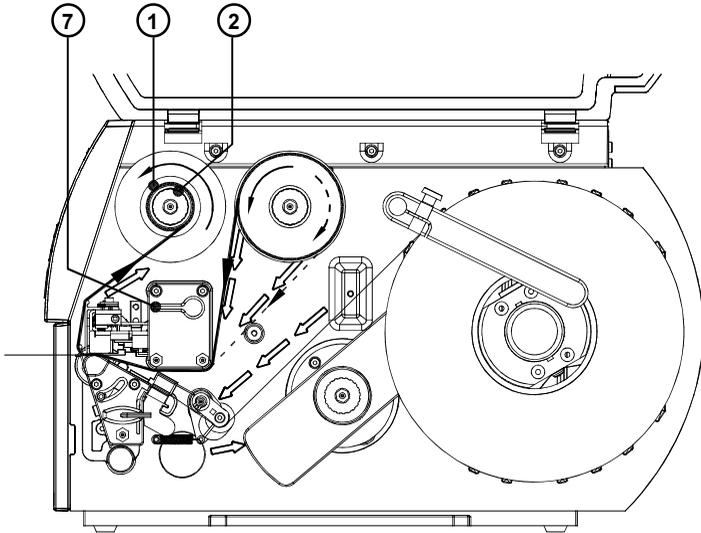

Fig. 7k Path of Transfer Ribbon
Note which side of the transfer ribbon is coated with ink! The inked side is generally the dull side of the transfer ribbon. When the ribbon is inserted, the inked side must not be placed in contact with the printhead! In figure 7k the solid line represents ribbon with ink on the inner side, and the broken line represents ribbon with ink on the outer side.
4. Rotate the knurled knob (6) counter-clockwise to attach the roll of transfer ribbon (4) onto the ribbon supply hub (5).
5. Slide a cardboard core (1) onto the ribbon take up hub (2). Attach the core by rotating the knurled knob (3) counter-clockwise.
6. Feed the transfer ribbon along the path as shown in figure 7k and attach it to the cardboard core (1) using a piece of tape or a label.
7. Turn the ribbon take up hub (2) counter-clockwise until the ribbon is taut and without any wrinkles.
8. Swing back the plate (8) to the print mechanism.
9. Rotate the printhead lever (7) counter-clockwise until it stops, thereby locking the printhead into position.